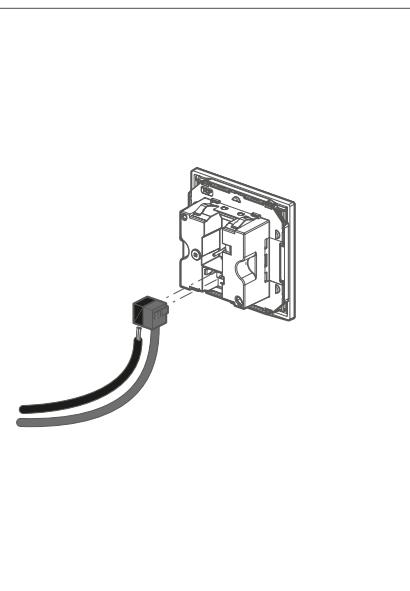

Fig. 20: Disconnecting the KNX bus connection terminal
- 3 Remove the KNX bus connection terminal from the device (see Fig. 20).